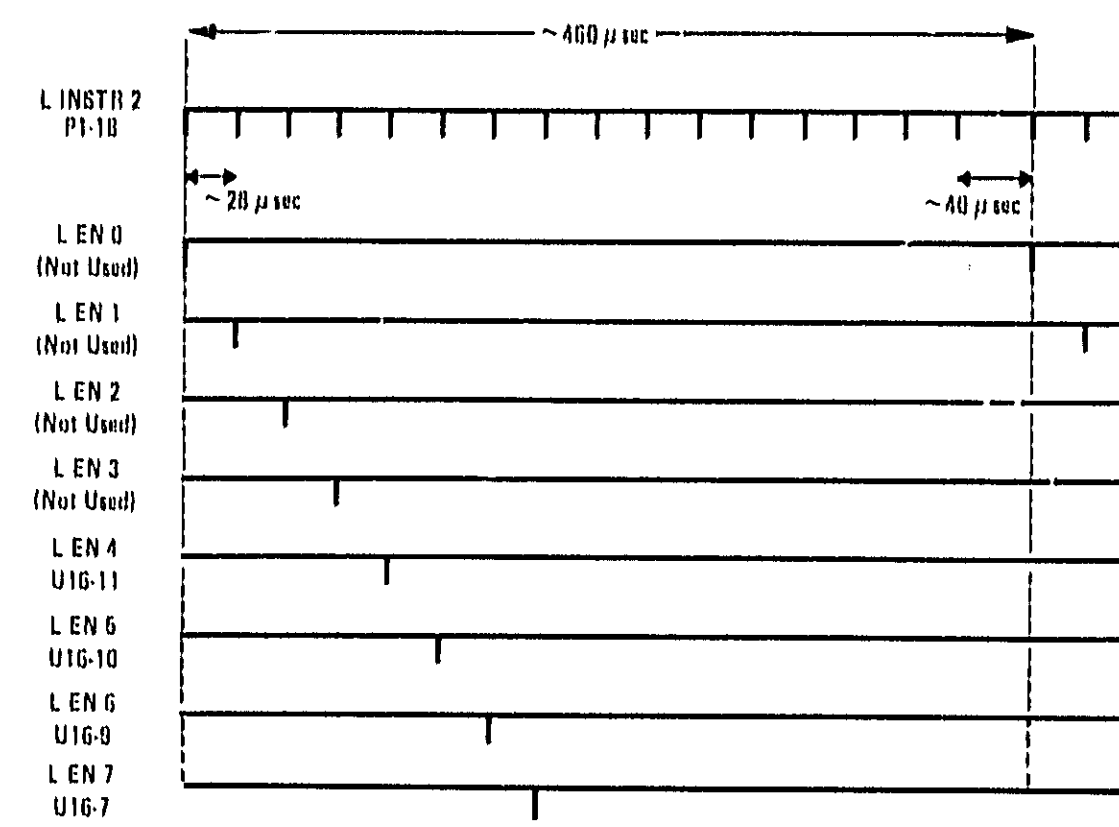

Figure 8-64. AS Address Decoder Timing Diagrams
2. If L INST2 is functional, check each of the L ENn lines (U16) for the pulses shown in Figure 8-64. If these are incorrect, but the address lines show activity, replace U16. If the address lines seem locked high or low, troubleshoot the address buffer on the A3 assembly.